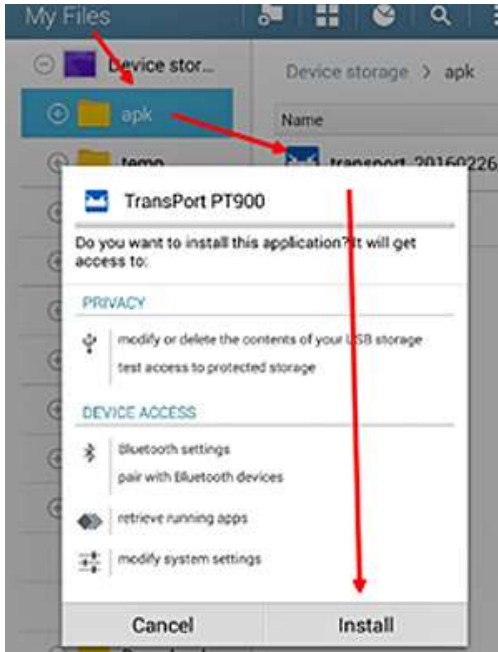

Figure 5: Initial Installation Screen
3. Click on the APK file, and the Android operating system will verify the checksum and signature for the file. Depending on whether this is an initial installation or an update installation, you will see a screen similar to Figure 5 below. Click “Install” to begin the installation.